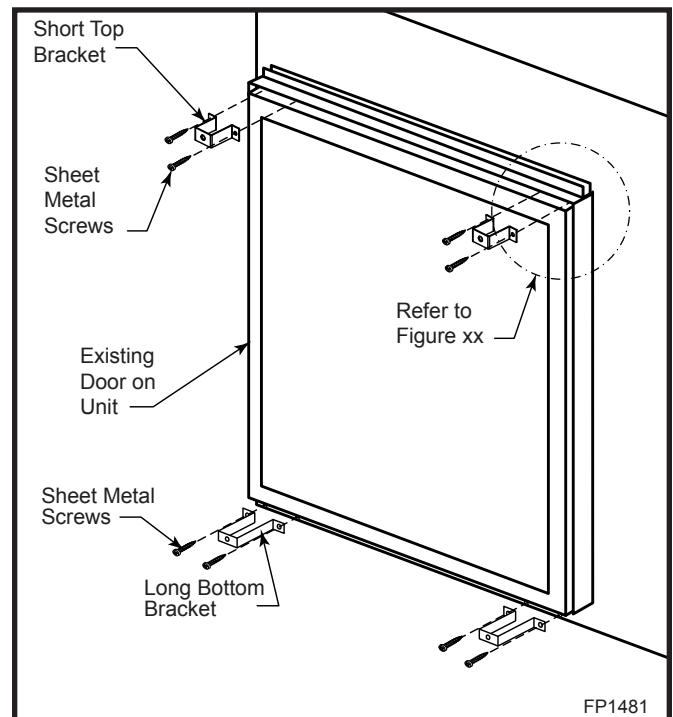

Fig. 26 Use sheet metal screws to attach brackets to existing holes under glass frame assembly.
2. Install the two (2) bottom (longer) brackets, using sheet metal screws, at the bottom right and left corners of the unit. (Fig. 26)
3. Install the two (2) short brackets, using sheet metal screws, at the top right and left corners of the fireplace window frame. (Fig. 26) **NOTE:** If top corners of the window frame do not have two (2) pre-drilled holes, you must drill these holes per Step 4.